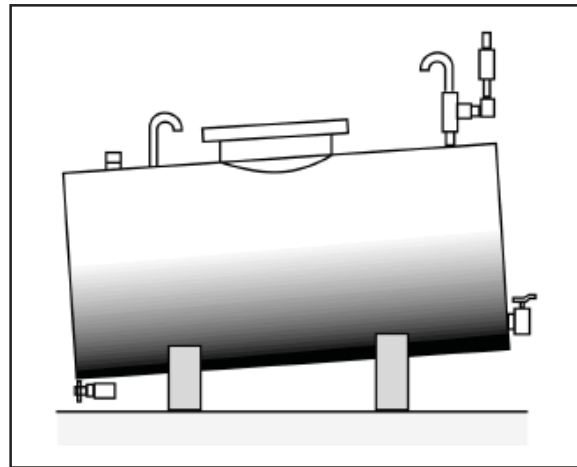

Fig.147
4. The storage tank (Fig. 147) should be under cover and supported on cradles of sufficient height to enable the tractor fuel tank to be filled by gravity, and should have a suitable manhole cover to provide access for cleaning. The final outlet cock should be located to allow 76 mm (3 in) settling depth for water sludge; it should feed through a detachable filter with 120 mesh screen. There should be a fall of about 40 mm per meter ( $\frac{1}{4}$  in per ft) towards the sludge drain plug.